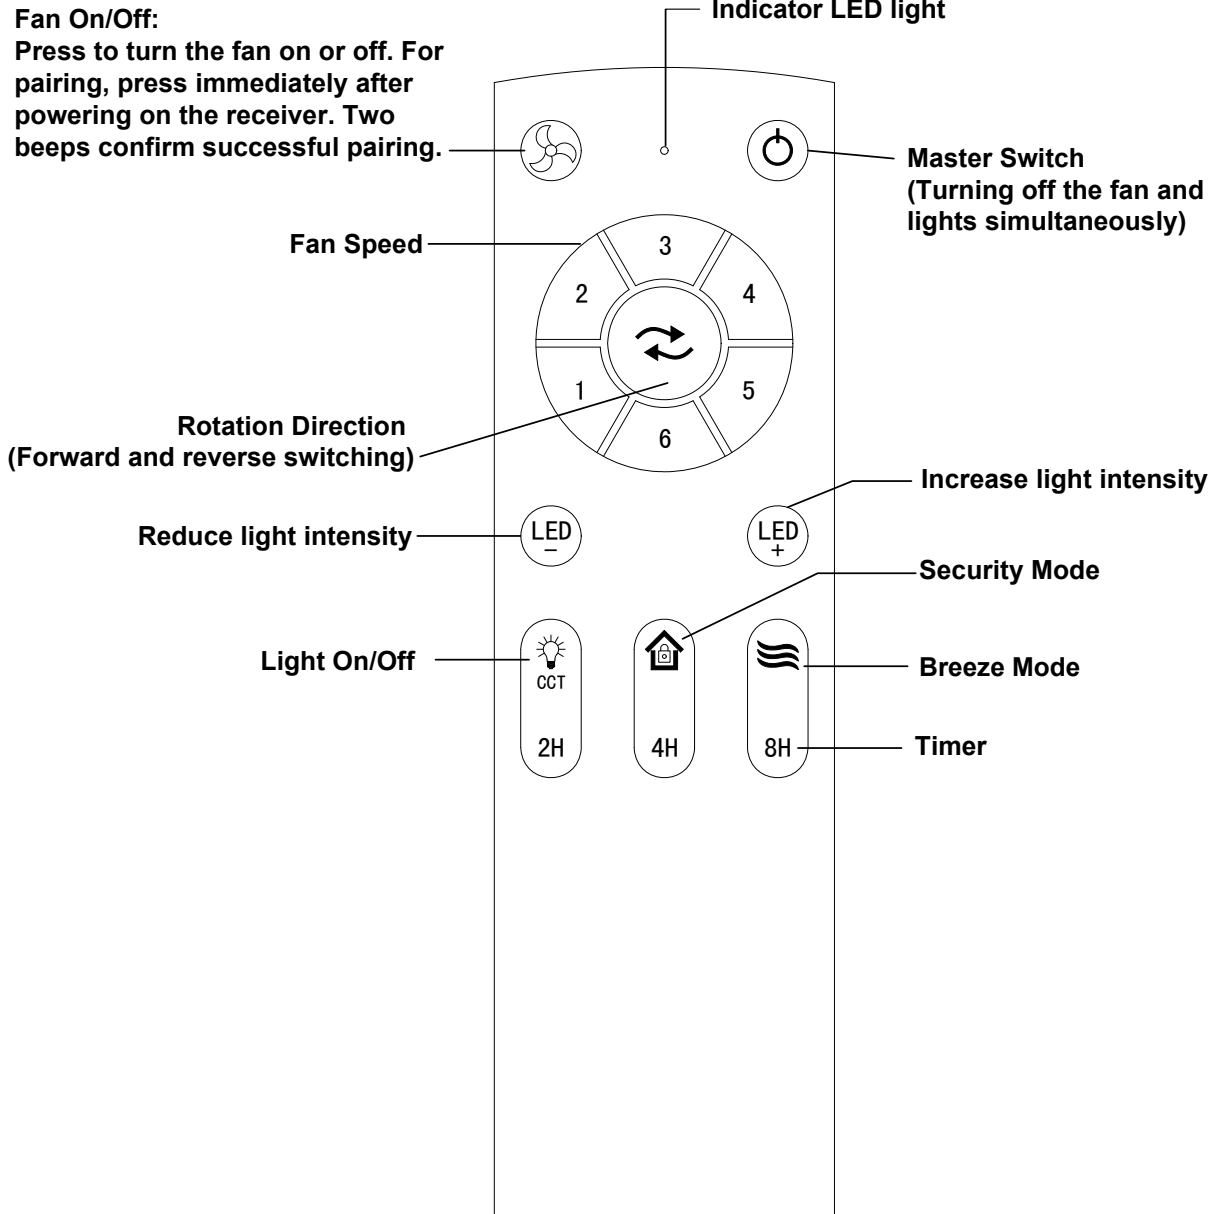

Figure 4
- ☐ 3. Carefully lift the fan and seat the downrod/hanger ball assembly onto the hanger bracket that was just attached to the outlet box. Be sure the groove in the ball is lined up with tab on the hanger bracket. (Figure 4)
3. After connections have been made, the wires should be spread apart with the grounded conductor and the equipment-grounding conductor on one side of the outlet box and the ungrounded conductor on the other side of outlet box, then turn leads upward and carefully push leads into the outlet box, with the white and green leads to one side of the box and the black leads to the other side. (Figure 4)
□ Remote functions: (Figure 4)